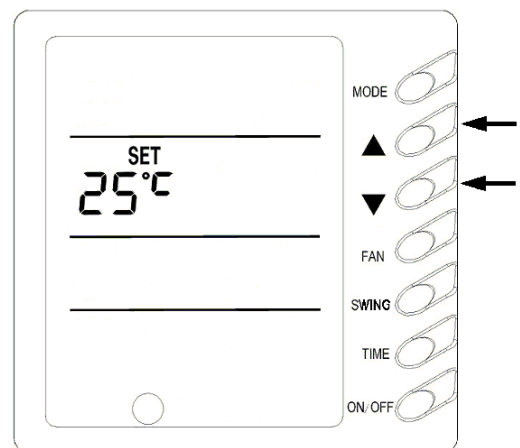

Fig.4
3) Temperature Setting (Fig.4)